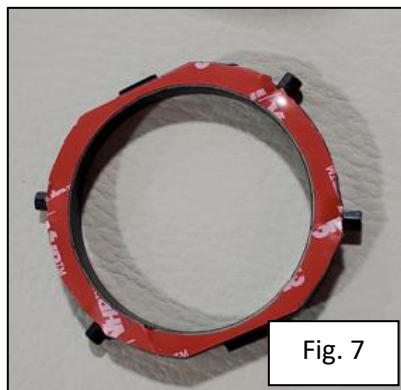

Fig. 7
- A. When you receive your part, the 3M VHB Tape 4919F should already be installed on the mounting ring holding the sensor. (Figure 7)
- A. To obtain optimum adhesion, the bonding surfaces must be stable, clean and dry. Use isopropyl alcohol to clean the window. (Figure 7 - Steps A and B)